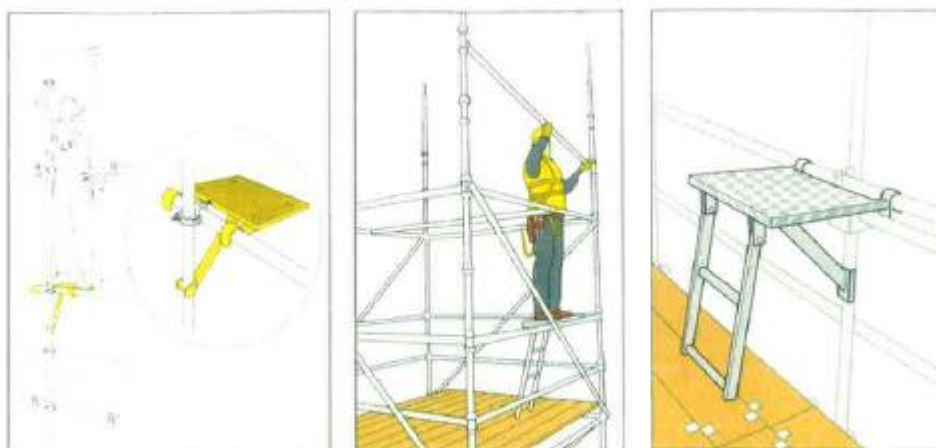

Figure 39 Examples of Step-up systems in use
8. All scaffold to be erected as per SG4:10 –See the diagram illustrating the use of the scaff' step below (**fig 39**).